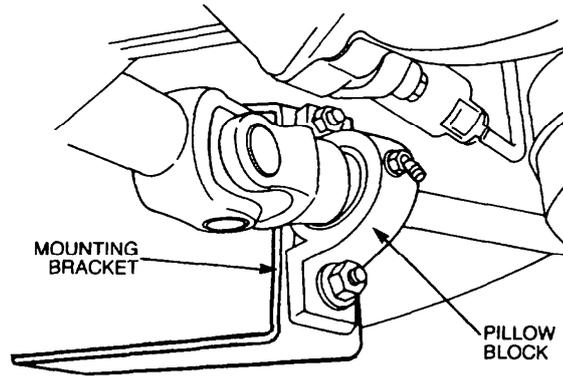

Figure 242 Pillow Block Installation
- f. Position the pillow block on the mounting bracket bolts (Figure 242).